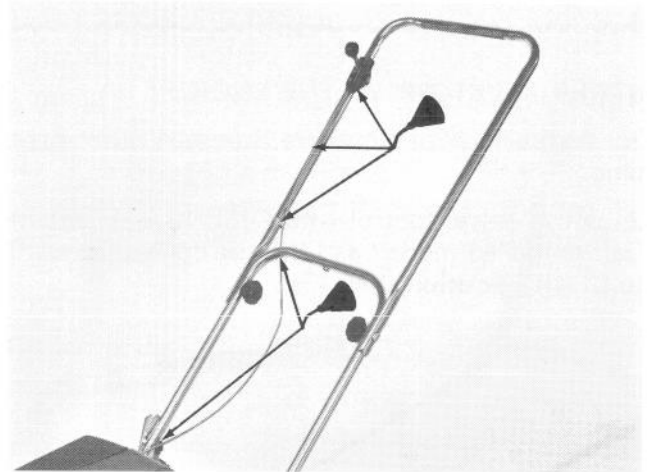

Figure 18
2. The throttle control and drive cables must be lubricated after every 25 hours of operation or at the end of the mowing season, whichever comes first. Apply light oil onto the cable (Fig. 18), especially where it bends. Also, squirt oil onto the cable where it enters the control housing and